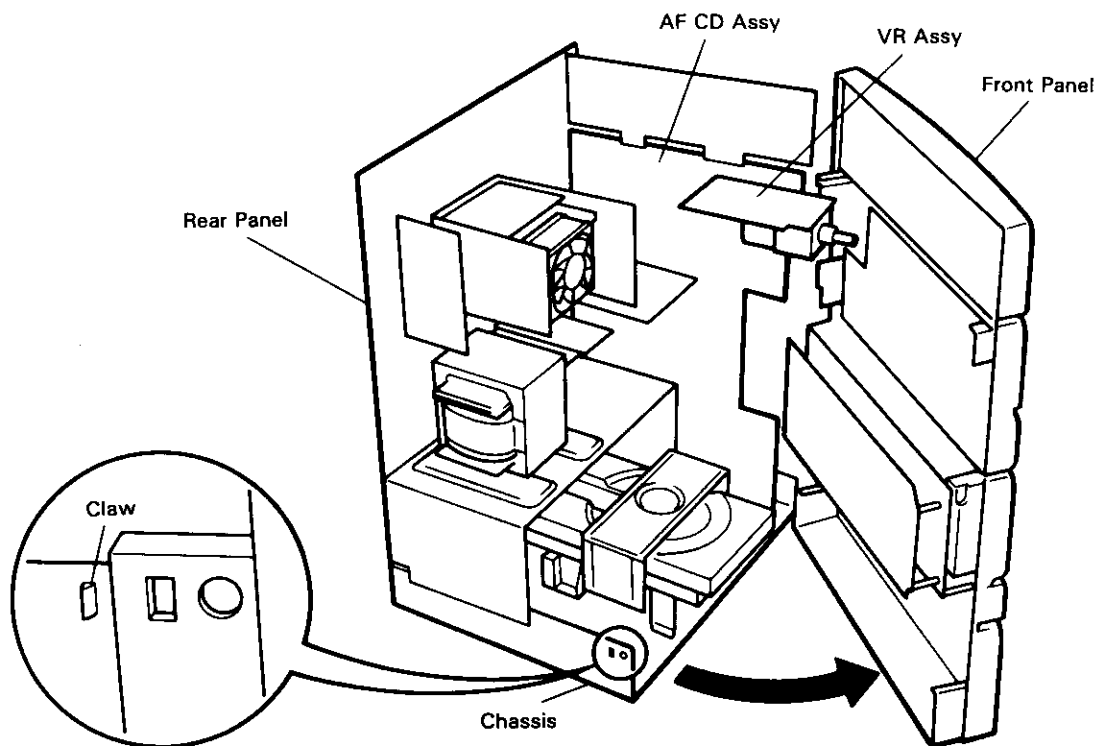

Fig. 1
6. Remove the front panel from the chassis (watching out for the claw on the left and right), and open the side of the AF CD assy. (Refer to Fig. 1)